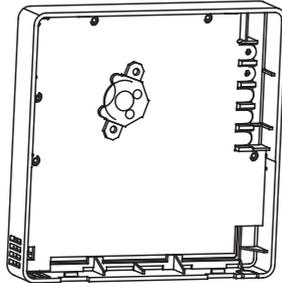

Fig 3-5
- Put the battery into the installation site and make sure the positive side of the battery is in accordance with the positive side of the installation site. (See Fig.3-5)